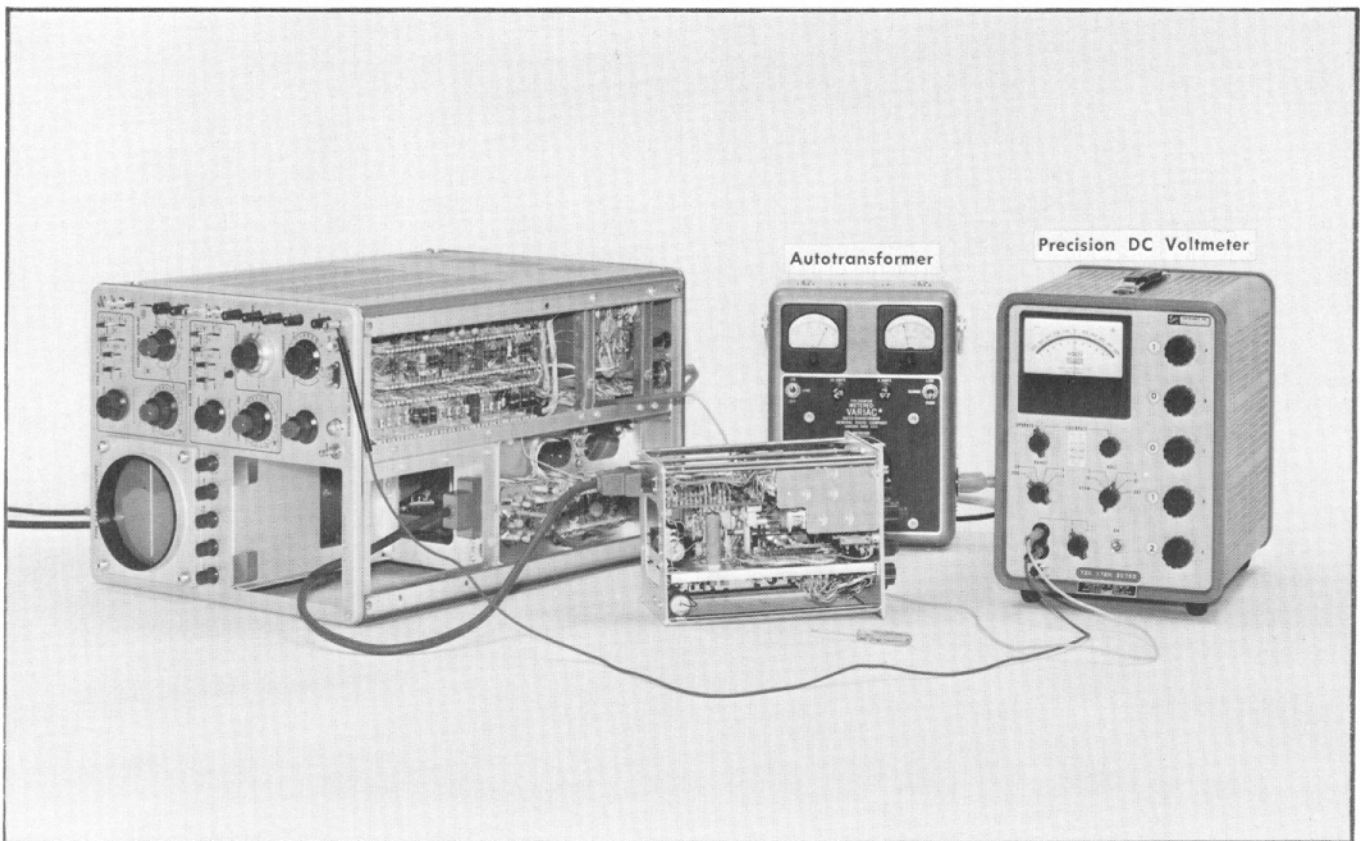

Fig. 7-11. Test equipment setup for step 7.
7. Adjust Output DC Level R360 ❶
a. Test equipment setup, with connections made at completion of step 7d, is shown in Fig. 7-11.